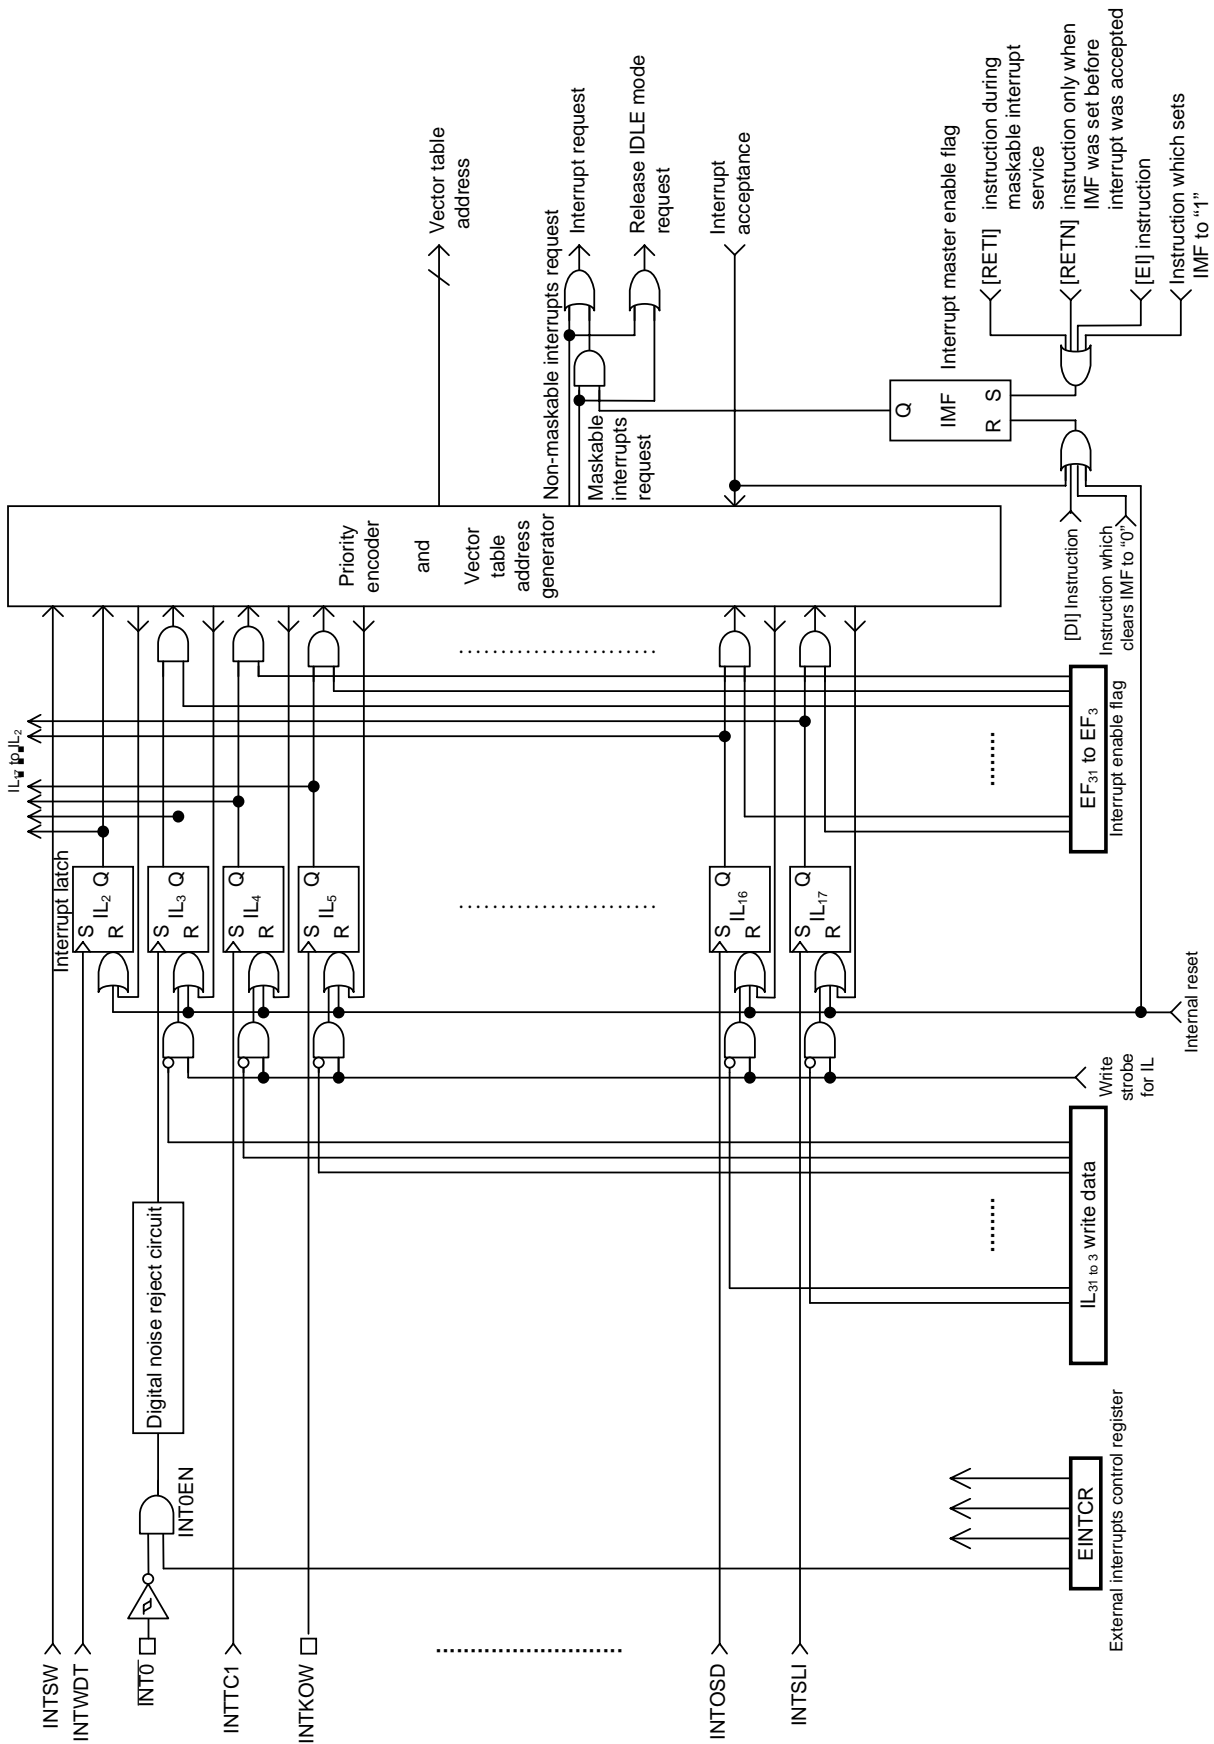

Figure 1.5.1 Interrupt Controller Block Diagram
The interrupt latch is set to “1” when an interrupt request is generated, and requests the CPU to accept the interrupt. The acceptance of maskable interrupts can be selectively enabled and disabled by program using the interrupt master enable flag (IMF) and the individual interrupt enable flags (EF). When two or more interrupts are generated simultaneously, the interrupt is accepted in the highest priority order as determined by the hardware. Figure 1.5.1 shows the interrupt controller.